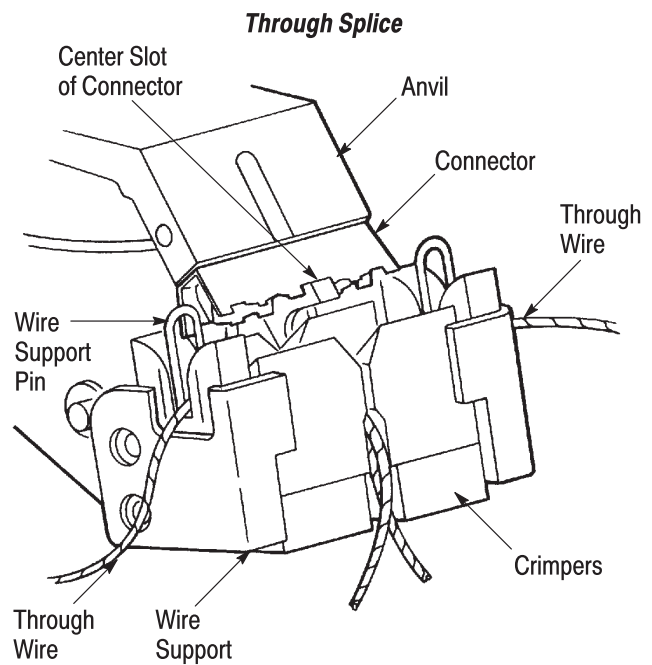

Figure 2
3.1. Through Splice (See Figure 2)